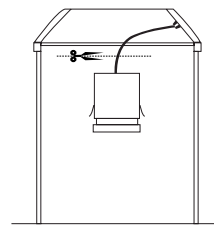

Figure 6
2. Cut Medium-base socket adapter (See Fig. 6)